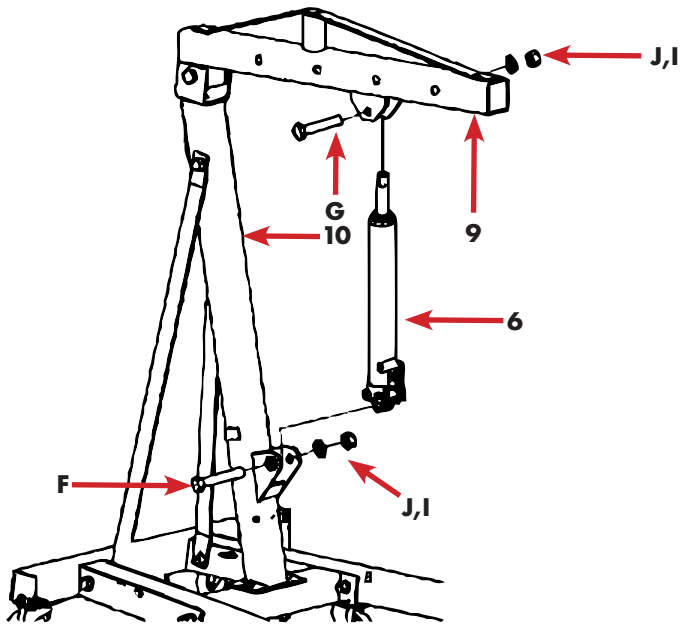

fig.14
- Install the hydraulic cylinder to the bottom hole of the support arm as shown in fig.14.
| Legend Figure 14 (see also from page ab 15, Figure 2 and Table 1) | |